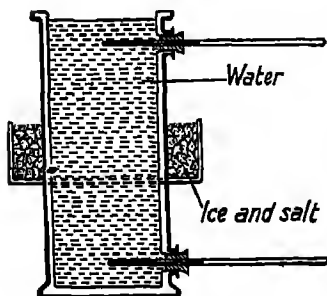

FIG. 231. Hope's experiment.
**Expt. 272. Hope's Experiment.** The apparatus is as shown in Fig. 231. Distilled water is placed in the jar and the middle surrounded with a mixture of ice and salt. Readings of both thermometers are taken at frequent intervals. The lower thermometer falls to  $4^{\circ}\text{C.}$  and then remains stationary. The upper thermometer falls to  $0^{\circ}\text{C.}$  and the surface of the water freezes.